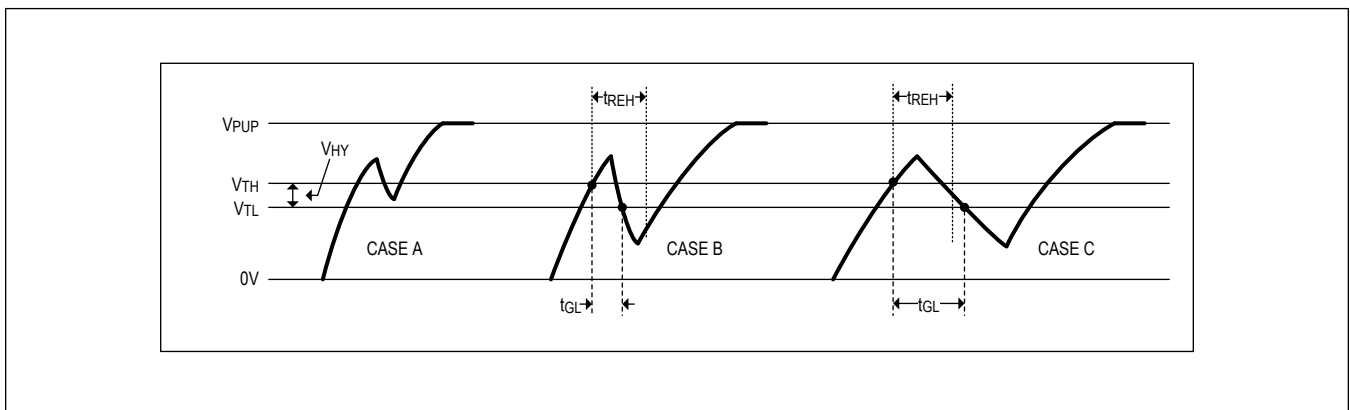

Figure 8. Noise Suppression Scheme
- On the low-to-high transition, if the line rises above V_{TH} but does not go below V_{TL} , the glitch is filtered (Figure 8, Case A.)
- The rising edge hold-off delay (nominally 100ns), t_{REH} , filters glitches that go below V_{TL} before t_{REH} has expired (Figure 8, Case B.) Effectively, the device does not see the initial rise, and the t_{REH} delay resets when the line goes below V_{TL} .
- If the line goes below V_{TL} after t_{REH} has expired, the glitch is not filtered and is taken as the beginning of a new time slot (Figure 8, Case C.)